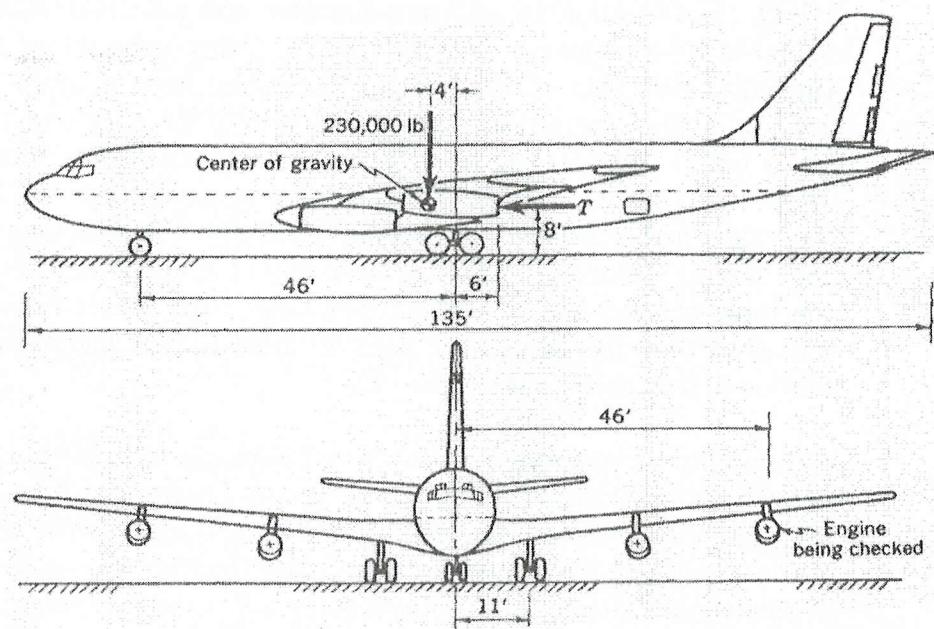

Figure 1/Gambarajah 1
1. A four-engine jet transport, which weights 230,000 Ib fully loaded, has its center of gravity at the location shown in the sketch. Before taking off for Europe the pilot must test the engines by operating them, one at a time, at a thrust of about 8,000 Ib. As he checks the left outboard engine, the other three engines idle at negligible thrust. The rear-wheel brakes are locked during the test, but the nose wheel has no brakes. In addition the nose wheel is mounted on a caster, so it cannot resist a sidewise force. (See Figure 1).